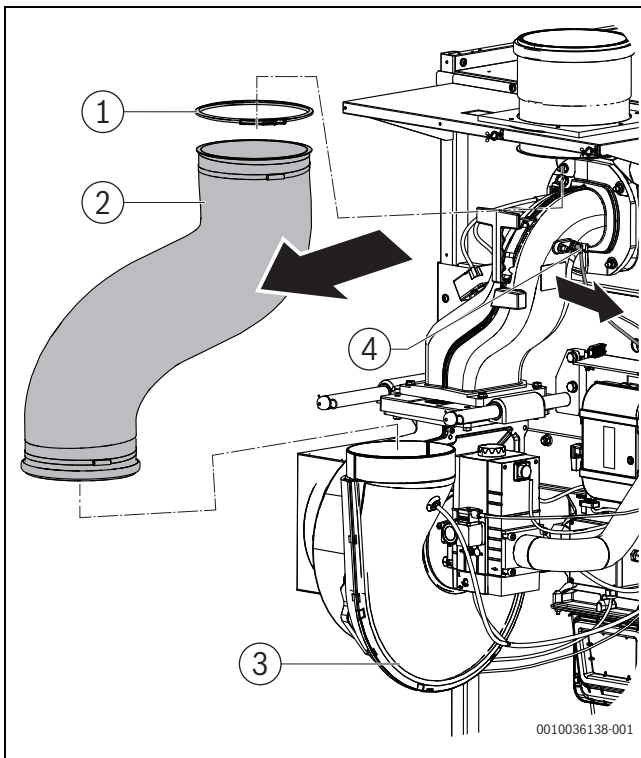

Fig. 47 Undoing the supply air hose
- Undo the temperature switch / burner controller connecting cable on the mixture manifold (→Fig. 47).
- ▶ Undo the temperature switch / burner controller connecting cable on the mixture manifold (→Fig. 47).